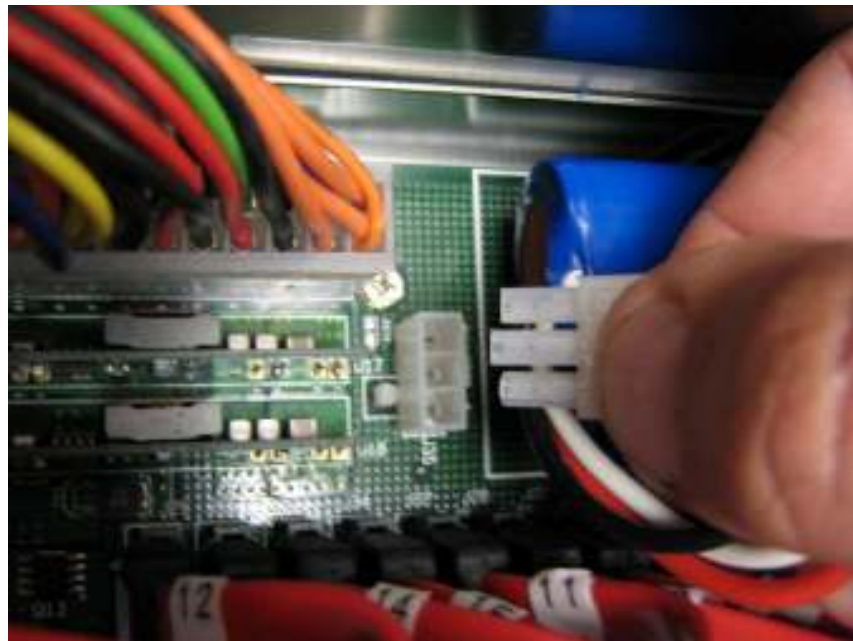

Figure D-3 Align the Battery Plug with Connector J35
3. Align the battery plug with connector J35 as shown in Figure D-3 and insert it fully into the socket.